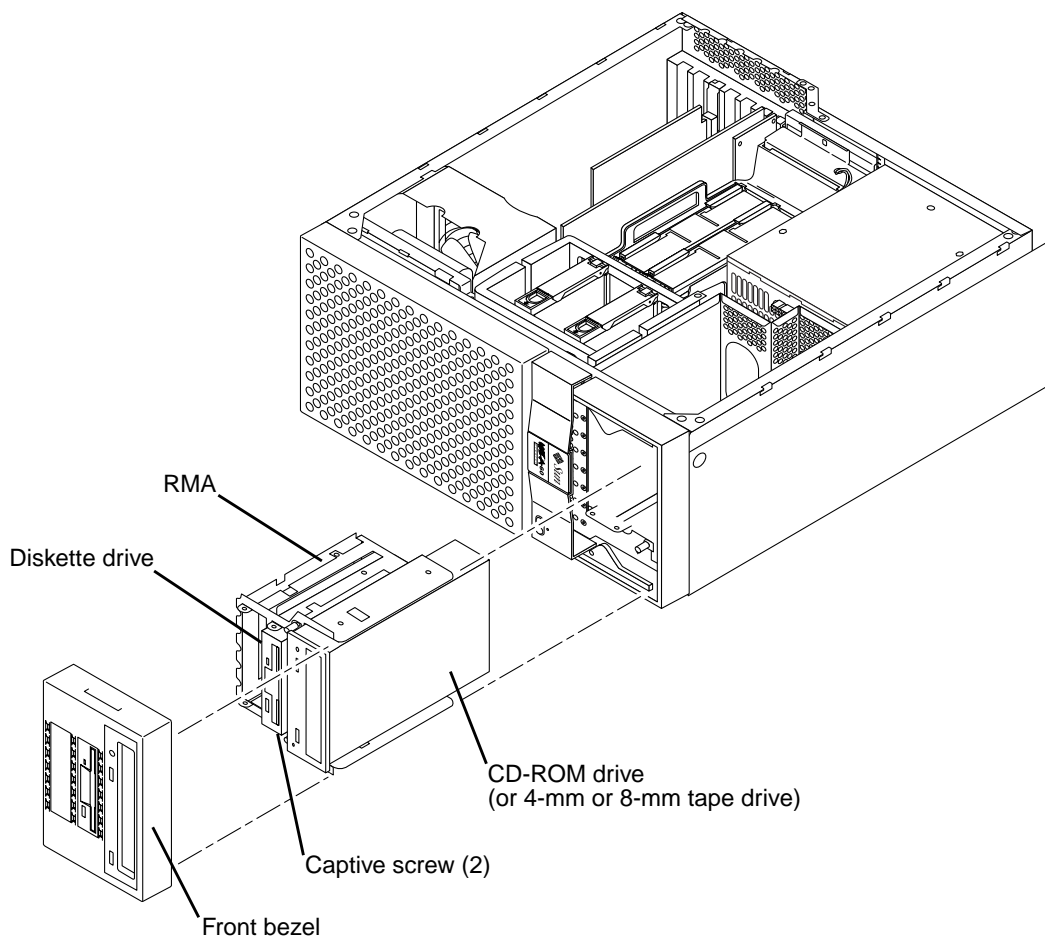

FIGURE 1-10 Replacing the Removable Media Assembly
1. Replace the RMA as follows (FIGURE 1-10):